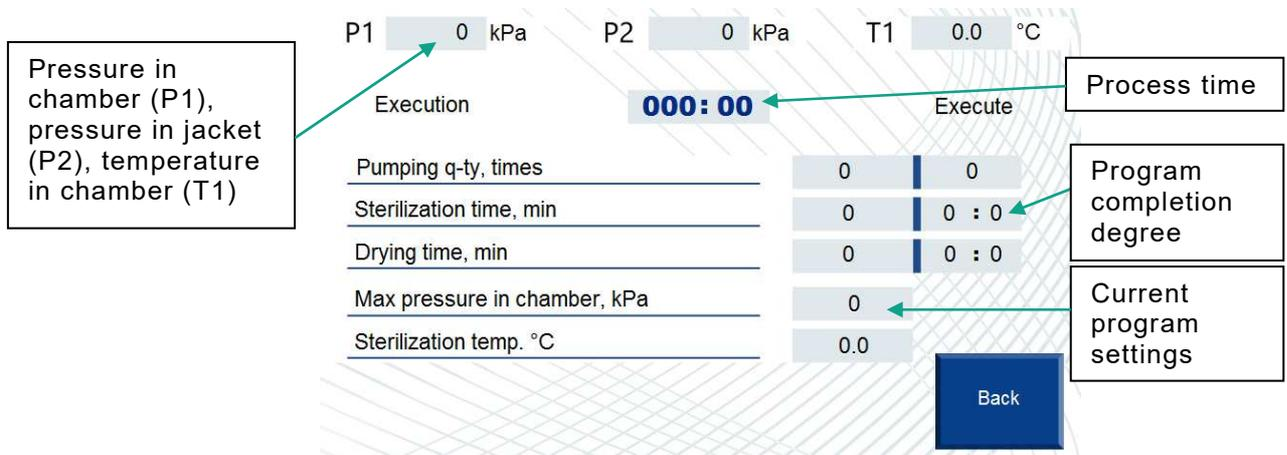

Fig. 14
**Table** – pressing this button navigates to the process table screens (depending of the selected program) (Fig. 14, 15).